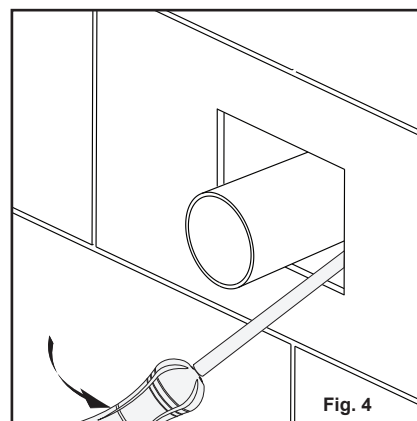
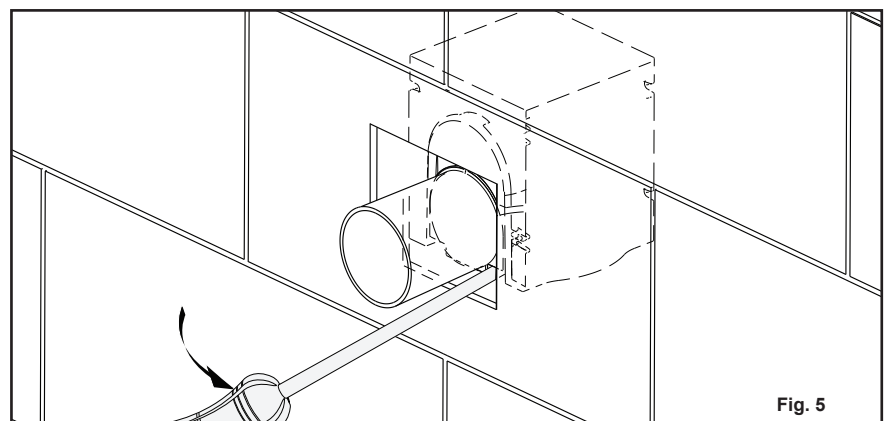

Fig. 4
Fig. 5
4. At the time of the pan installation, measure the pan inlet hole and check it lines up with the horizontal section of the flush pipe. If the flush pipe is too high or too low the horizontal section of the flush pipe can be raised by up to 15mm or lowered by up to 10mm to align with the pan. To adjust the flush pipe, insert a large flat edge screwdriver into the gap between the underside of the flush pipe and the noggin and gently lever the underside of the flush pipe to raise to the required height, as shown in **Fig. 4** and **Fig. 5**.